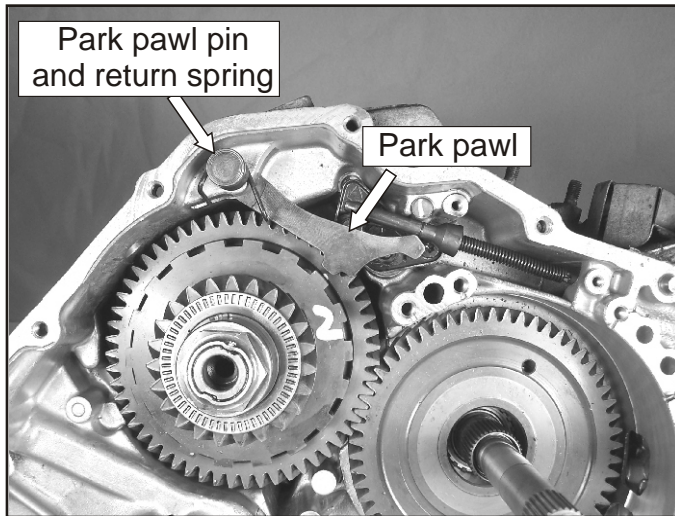
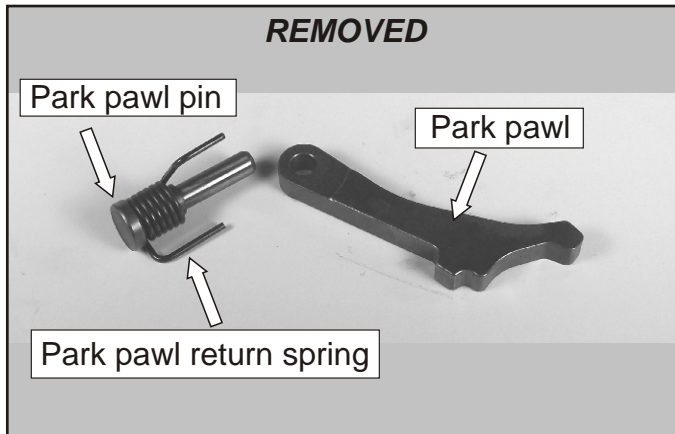

Figure 55
Figure 56
14. Remove the park pawl pin and return spring. Remove the park pawl as shown in Figure 55. Refer to Figure 56 to see this assembly removed from the case.